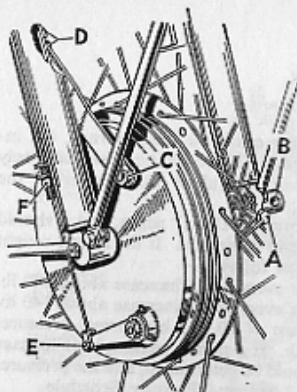

FIG. 26.
To detach the wheel first disconnect the brake cable by withdrawing it from the slotted clevis at (E) Fig. 26, and unscrewing it from the bracket at (F). Remove the torque arm nut (C) slacken nuts (D) and undo the pinch bolt (A). Insert a tommy bar in the hole in the head of the spindle at (B) and unscrew the spindle, noting that it has a left-hand thread and therefore unscrews in a clockwise direction. Support the wheel as the spindle is withdrawn, and when it is clear the wheel can be pulled away from the right-hand fork leg and removed from the machine.